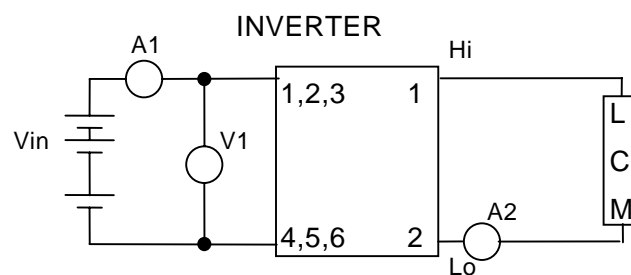

Fig.1 Wiring
- (1) All characteristics are measured by our certain test equipment. The measurement of condition should be stable lighting (more than 30 minutes after startup :at 25+/-1deg and no breath of wind) (The measurement of input rush current is exception.)
- (2) The electrical characteristics are measured as we show on measurement diagram fig.1. $V_{in}=12V$.
- (3) As we show on measurement diagram fig.1, the test equipment shall be V1:DC Volt meter (Class0.5) A1:DC Current meter(Class0.5) A2:AC Current meter type2016(Y.E.W) or FLUKE45(FLUKE) V_{cc} :DMS35-2.3(Metronix).
- (4) The line length of between the lamp and 2pin of CN2(high voltage side)is less than 150mm. The line length of between the lamp and 1pin of CN2(low voltage side)is less than 400mm.